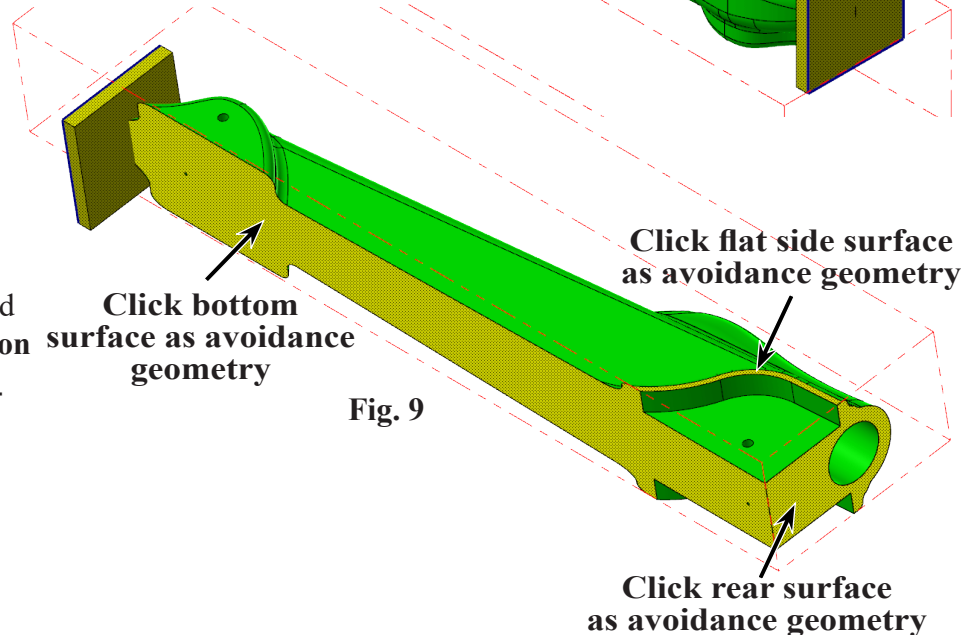

Fig. 9
Step 6. Rotate view to view **bottom** and **rear surfaces**, hold down middle mouse button (wheel) and drag to rotate view, **Fig. 9.**
Step 7. Click **flat side surface at wheel well, bottom and rear surfaces** to select as avoidance geometry and click **End Selection (ENTER)**, **Fig 9.**